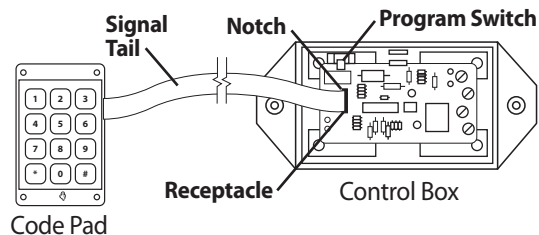

Figure 5
3. Remove the cover of the control box by pressing inward on the sides and pulling up. The signal tail plugs into the control box, therefore, position the box on the interior wall of the garage within reach of the signal tail. Proper positioning is illustrated in Figure 5. Secure the control box with the two 1" screws supplied.
4. Plug the signal tail into the control box as shown in Figure 5. **IMPORTANT:** The signal tail has a notch near the connector end. **THE NOTCH MUST BE NEXT TO THE PROGRAM SWITCH WHEN PLUGGED IN.** If the notch faces away from the program switch when plugged in, the unit will appear to operate properly, but your security code will not be stored correctly and other codes may also open your door.